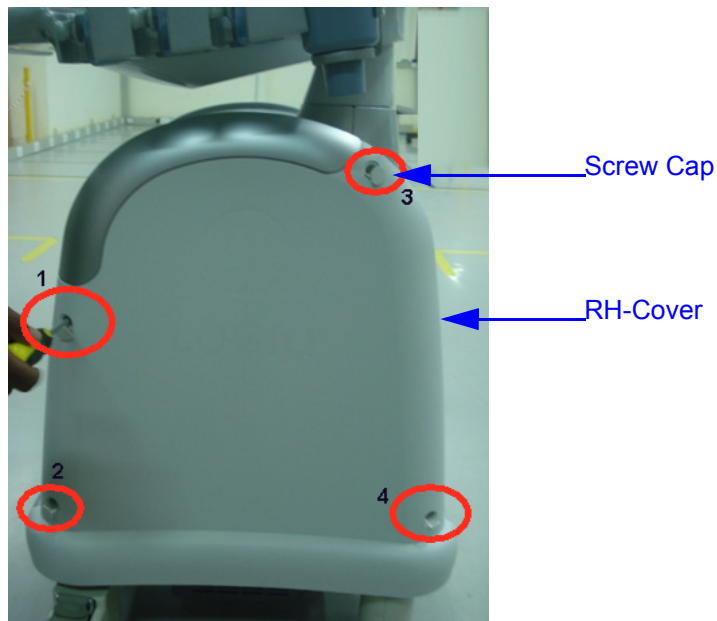

Figure 8-21 RH-side cover
Refer Figure 8-21 on page 8-26
2) Remove the RH-side cover from the system. Refer Figure 8-21 on page 8-26